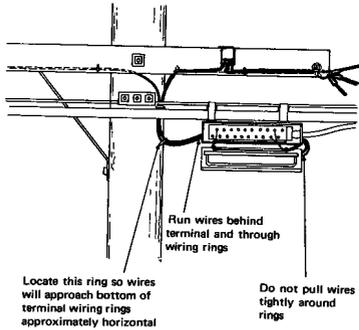

FIGURE 12. Wire Run from Terminal to Guard Arm
- 8.05 Run wires from terminal to guard arm as illustrated in Figure 12.